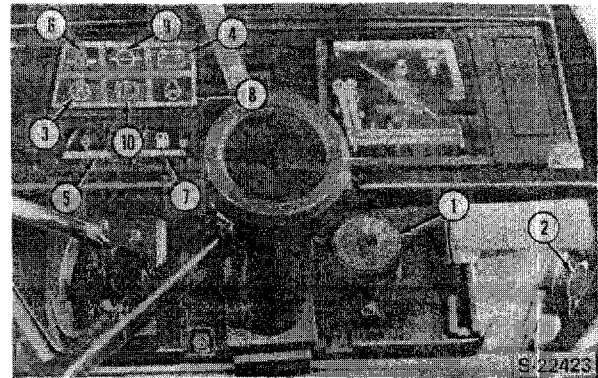
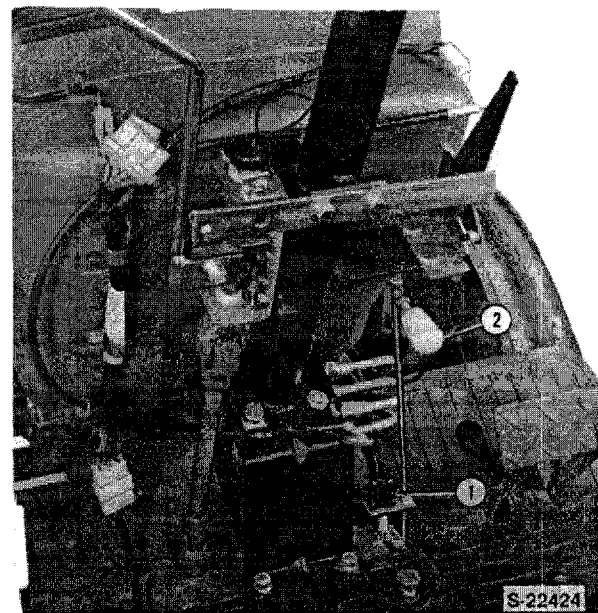

Figure 11
Figure 12
The switch senses low coolant level in the cooling system and causes the warning light to illuminate, Figure 11.
On the model 1720 a parking brake switch (1), Figure 12, is used to activate a warning indicator light (10), located on the instrument panel, Figure 11.